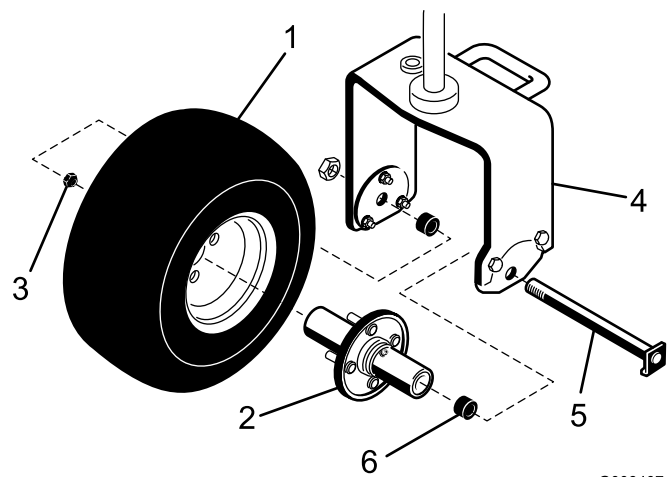

Figure 3
1. Mount the wheel hub to the rear wheel rim with 4 mounting nuts (Figure 3). Torque the nuts to 70–90 ft.-lb.
2. Remove the wheel bolt and locknut from the wheel mounting holes in the rear castor fork (Figure 3).
5. Position the bend of the wheel bolt head under the bottom edge of the adapter plate (Figure 3). Install and tighten the locknut to secure the wheel to the castor fork. Do not overtighten the locknut as the wheel must rotate freely.